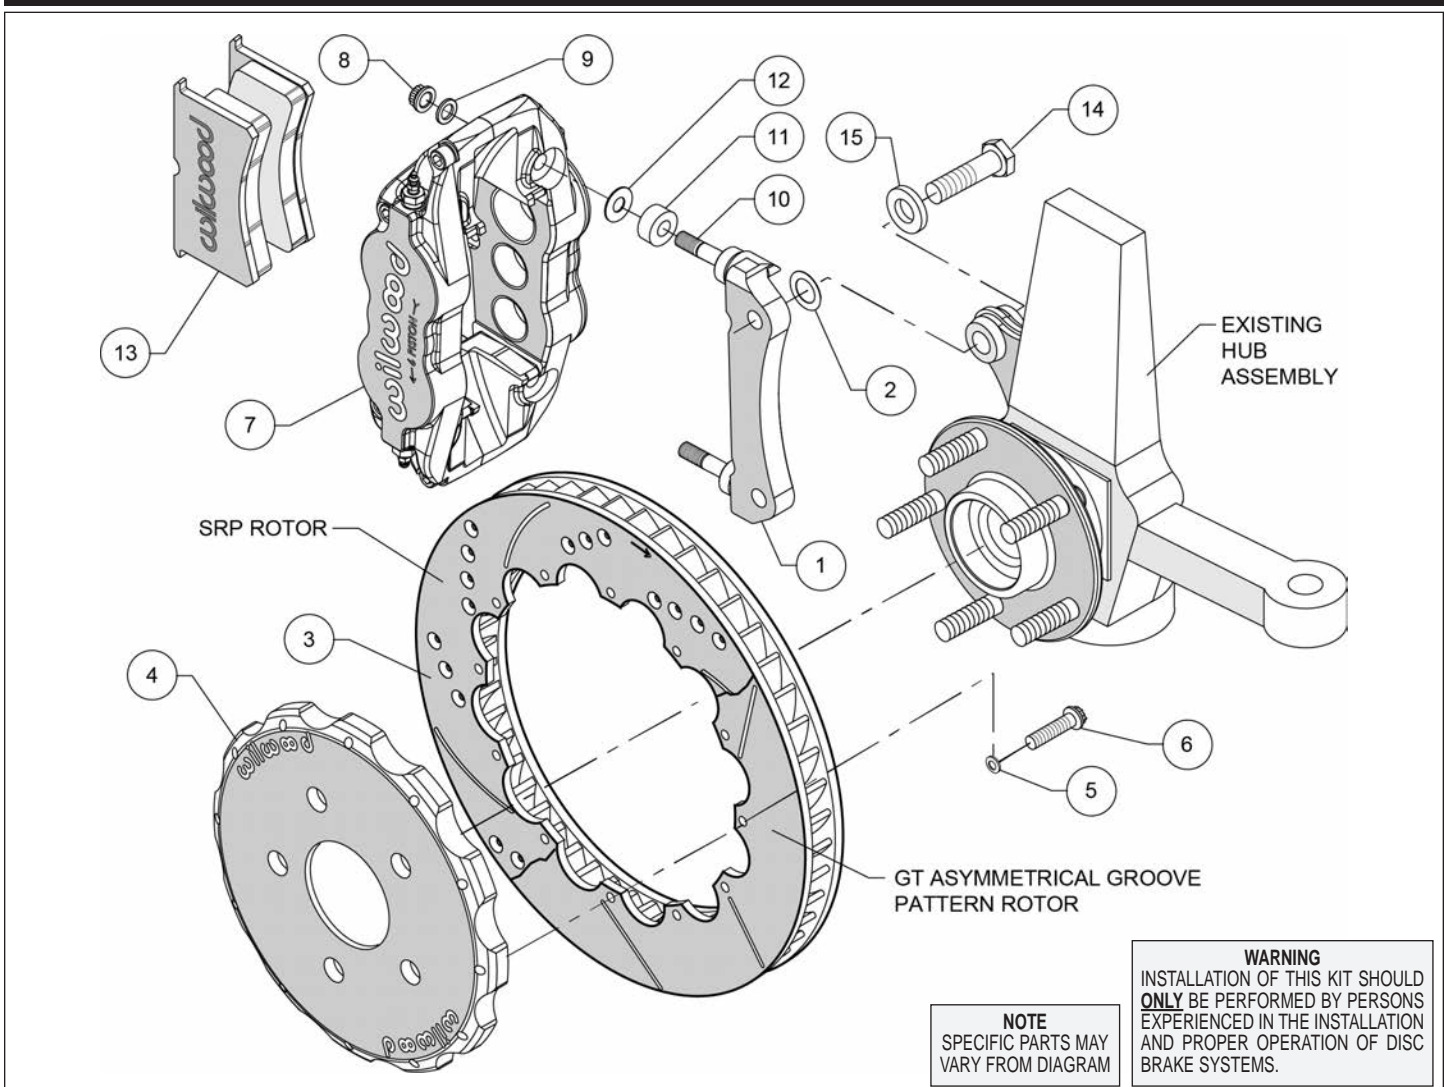
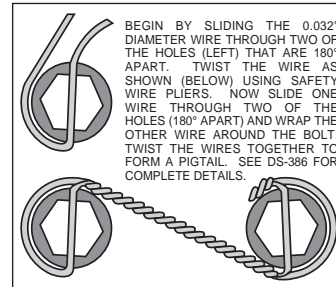

Figure 1. Typical Installation Configuration
Figure 3. Safety Wire Diagram
Assembly Instructions (numbers in parenthesis refer to the parts list and Figure 1 on the preceding pages):
- The caliper mount bracket (1) should initially be installed with clean, dry threads on the mounting bolts. Orient the bracket, as shown in Figure 1 and install using bolts (14) and washers (15). Initially place one .029" thick shim (2) on each bolt between the bracket and upright, Figure 1. Temporarily tighten the mounting bolts. **NOTE:** *The bracket must fit squarely against the mount bosses on the upright.* Inspect for interference from casting irregularities, machining ridges, burrs, etc. Later, after the caliper alignment has been checked, the mount bolts will be secured using red *Loctite*[®] 271.
- Orient the rotor (3) and the hat (4) as shown in Figure 1 and Photo 1. Attach rotor to hat using bolts (6) and washers (5). Using an alternating sequence, apply red *Loctite*[®] 271 to the threads, and torque to 155 **in-lbs**. For an added measure of security, the bolts may be safety wired using standard 0.032 inch diameter stainless steel safety wire as shown in Figure 3. Refer to Wilwood's data sheet DS-386 (available at www.wilwood.com/Pdf/DataSheets/ds386.pdf) for complete safety wire installation instructions.
- NOTE:** *This kit contains distinct right and left hand calipers that must be mounted in a specific direction, as described below.* Lubricate the caliper mounting studs (10) with lightweight oil. Initially place one .035" thick shim (12), and spacer (11) on each stud as shown in Figure 1 and Photo 2. Mount the caliper (7) onto the bracket (1) using lock nuts (8) and washers (9), Figure 1. Ensure that the caliper is mounted so that the largest pistons are at the rotor exit end of the caliper, in relation to the direction of rotor rotation. Temporarily tighten the lock nuts and view the rotor through the top opening of the caliper. The rotor should be centered in the caliper, Photo 3. If not, adjust by adding or subtracting shims (2) between the bracket and the upright. Always use the same amount of shims on each of the two mounting bolts. Once the caliper alignment is correct, remove the bracket mounting bolts (14) one at a time, apply red *Loctite*[®] 271 to the threads, and torque to 77 ft-lb.